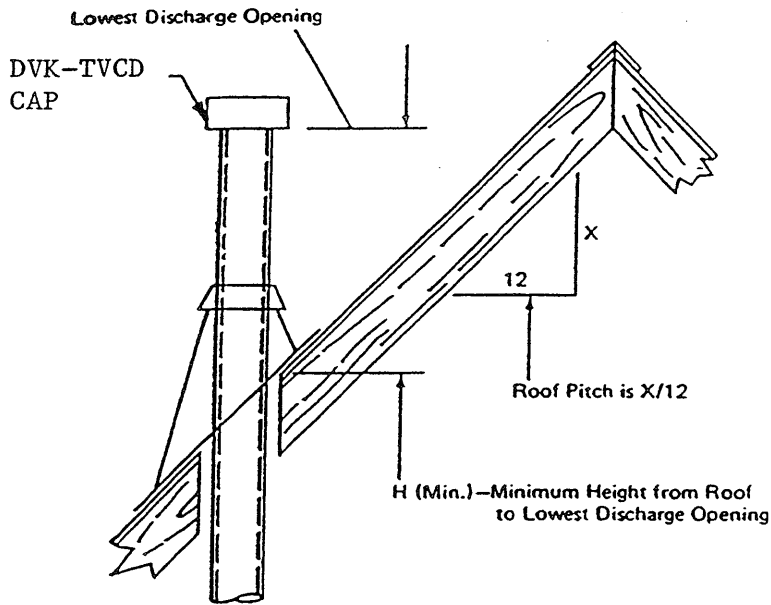

FIGURE 17
**WARNING:** Major U.S. building codes specify minimum chimney and/or vent height above the roof top. These minimum heights are necessary in the interest of safety. Figure 17 and Table 7 show minimum heights, provided the termination cap is at least 8-feet from a vertical wall.